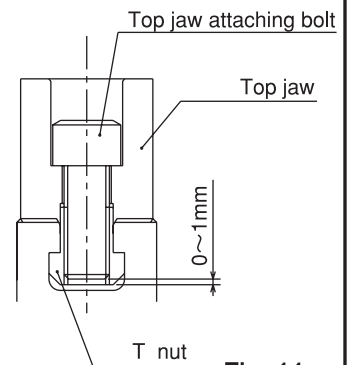

Fig. 11
- If the screw-in depth of the jaw attaching bolt to the T nut is shallow, the T nut will break, and this is dangerous as the jaw and work will fly out. If the attaching bolt is too long and comes out from the bottom of the T nut as well, this is dangerous as the jaw and work will fly out since the top jaw is not fixed. Therefore, the overall length of the jaw attaching bolt must be approximately 0 to -1mm from the bottom of the T nut (Refer to Fig. 11).